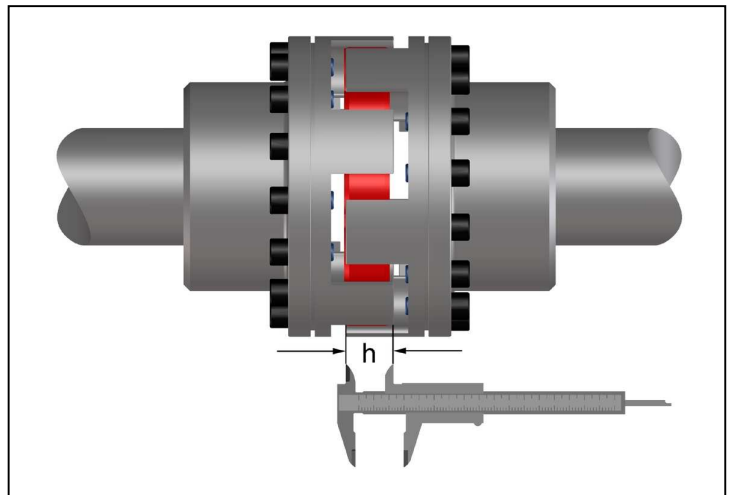

Fig. 9
- Measure the axial claw overlap 'h' as shown in Fig. 9.